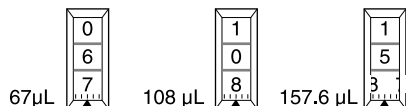

Figure 4: Example volumes
4. Turn the volume lock to the “lock” position (Fig. 2 above) to prevent changes to the volume setting. Some volumes for the 200 μ L model are shown in Figure 4.